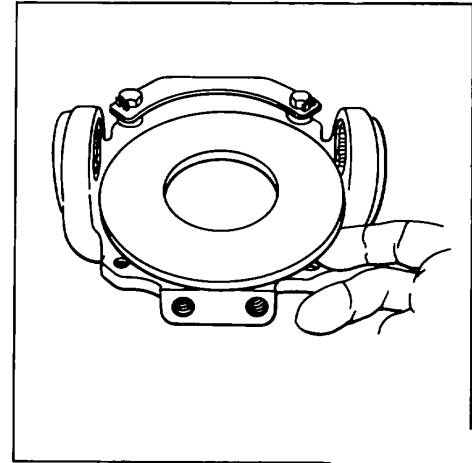

Figure 134.
9. Match up dowel pin (34) in cam (12) with dowel pin hole in wear plate (20) and seat wear plate (20) in cam(12) See Fig.134. Check proper seating